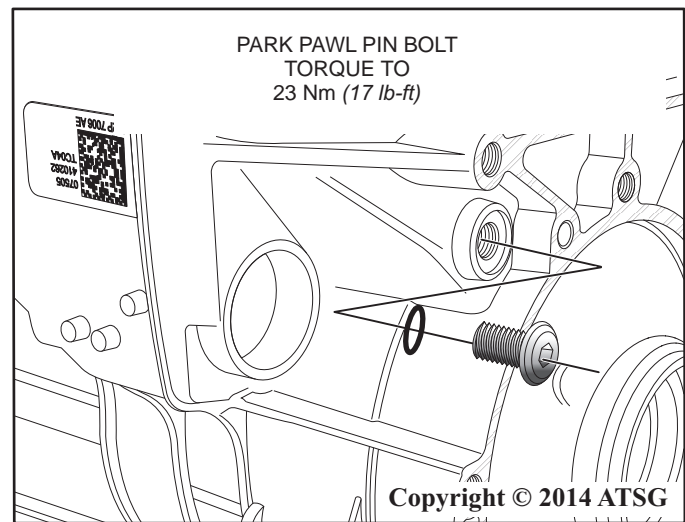

Figure 152
52. Install a new o-ring onto the park pawl pin bolt as shown in Figure 152.
53. Install the park pawl pin bolt into the case as shown in Figure 152.